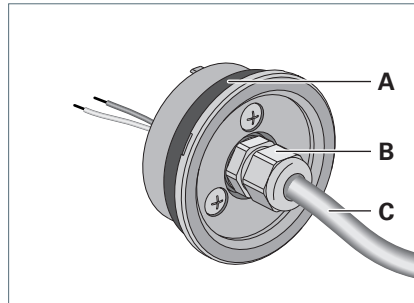

Fig. 3: Luminaire RL70.
- ▶ Pass the cable through the cable gland **B**, see Fig. 3.